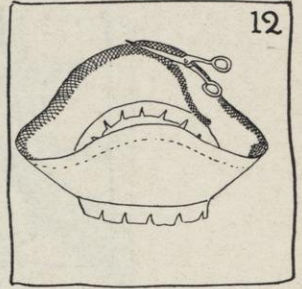

FIG. 12.
- (4) Now follow Job 3, Section 3, a, b, c and d, but only mark the headsize (page 14).
- (5) When the brim is removed from the block:
- (a) Cut the inner edge evenly, so that it comes exactly $\frac{1}{2}$ inch inside of the extreme edge of the brim (see Figure 12).